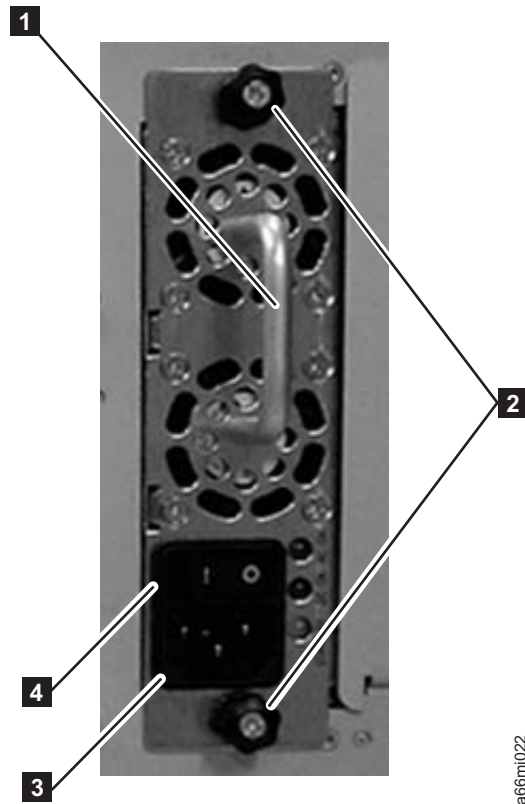

Figure 4-33. Control module power supply
1. Replace the power supply component by sliding it into the power supply slot. First, grasp the handle (**1** in Figure 4-33) while the power supply component is supported from underneath. Then, line up the power supply component with the guides in the power supply slot, and carefully push it into the library.
2. Tighten the two thumb screws (**2** in Figure 4-33) on the power supply component by turning them clockwise.
1. Turn the switch on each power supply (**4** in Figure 4-33 on page 4-28) to the ON (I) position.